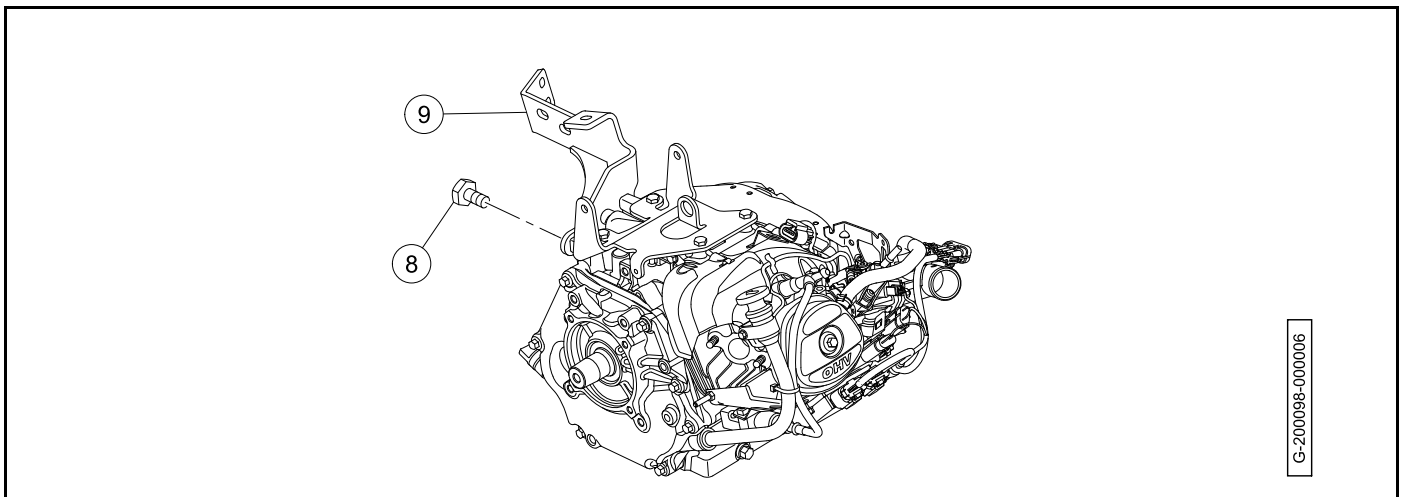

Figure 21-6 Exhaust Weldment Installation
4. Install the muffler weldment (9) with the bolts (8) (**Figure 21-6, Page 21-5**). Tighten the bolts to 18 ft·lb (24 N·m).